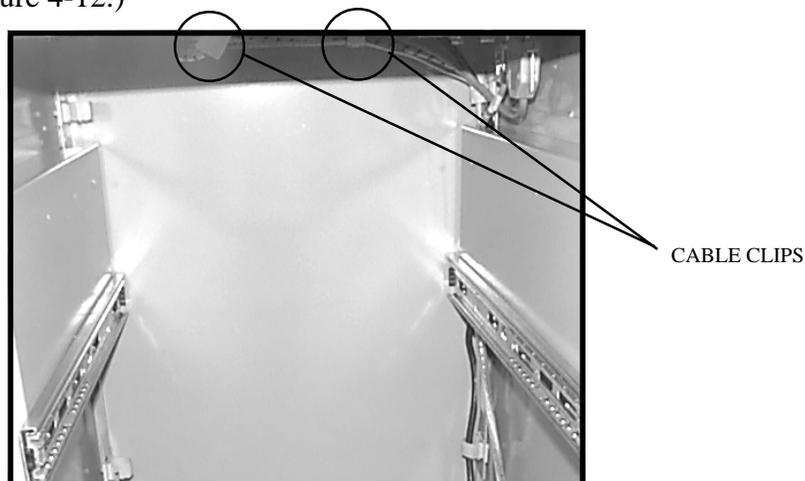

FIGURE 4-12
27. Route the cables through the two cable clips that are attached to the top of the cabinet, near the rear wall. (See Figure 4-12.)